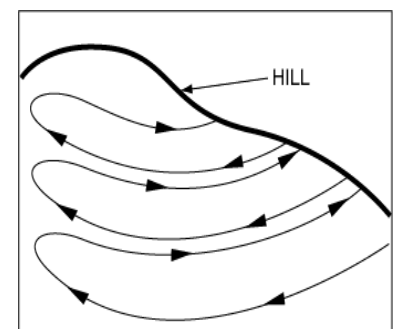

Fig. 16-8
**⚠ WARNING!** Never mow on any slope greater than 15 degrees. Always mow across the face of slopes; never up and down or diagonally (see figure 16-8). DO NOT attempt sudden starts or stop when mowing on a slope. Avoid sudden turns and use extreme caution when changing direction on a slope.